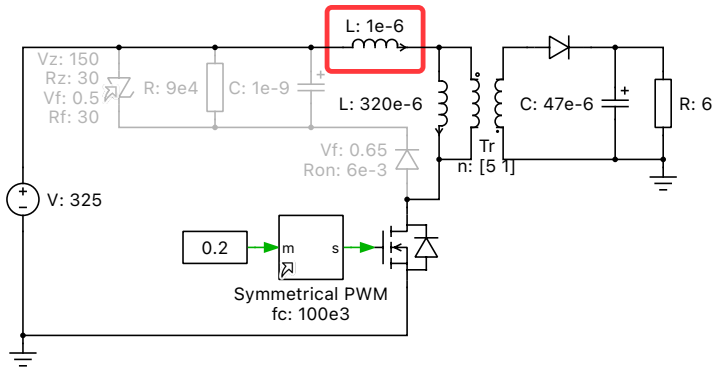

Figure 20: Flyback converter with transformer leakage inductance
- 1 Uncomment the leakage inductor as shown in Fig. 20.